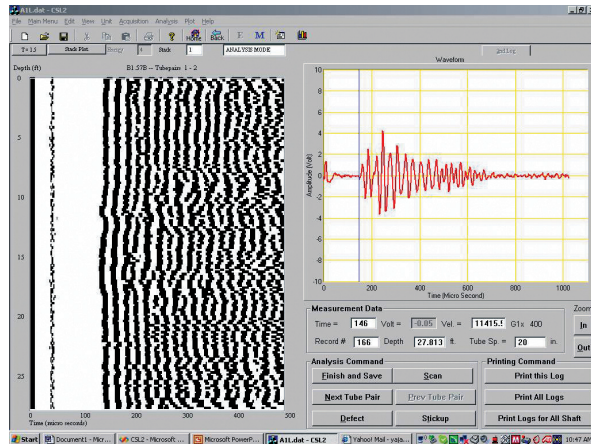

Figure 27: Waterfall or Z-Banded Plot
5. Waterfall or Z Banded Plot: Alt+5 or Plot/Log, Plot/Z Banded Plot (see Fig. 27)